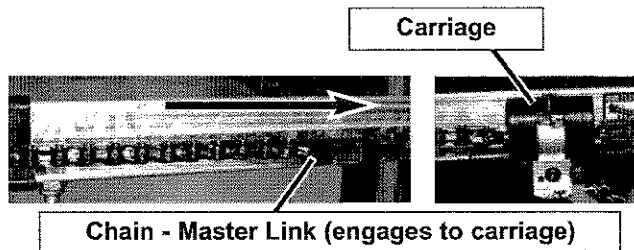

FIG. 6-2 Engage Chain to Carriage.
1. Press and hold the "Close Travel Limit" button until the chain advances and engages carriage (Fig. 6-2).